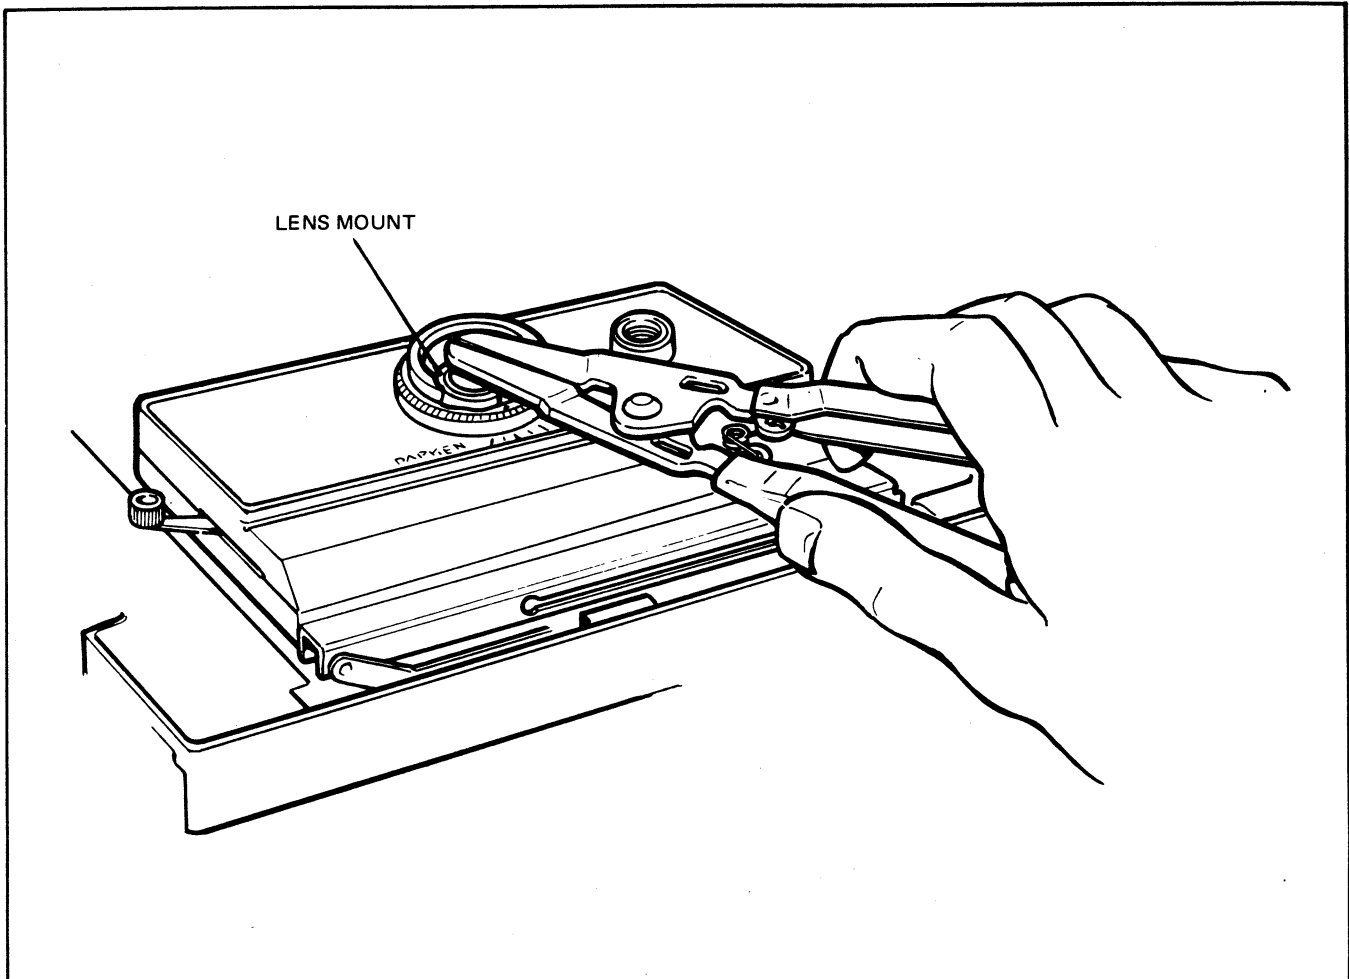

FIG. 5.14 REMOVING THE FRONT LENS - METAL SHUTTER HOUSING
1. Remove the front lens assembly from the camera using tool #169446. Position the tool in the lens mount and squeeze the handle until the head is firmly against the mount (Figure 5-14). Rotate the handle counterclockwise until the lens assembly is free.